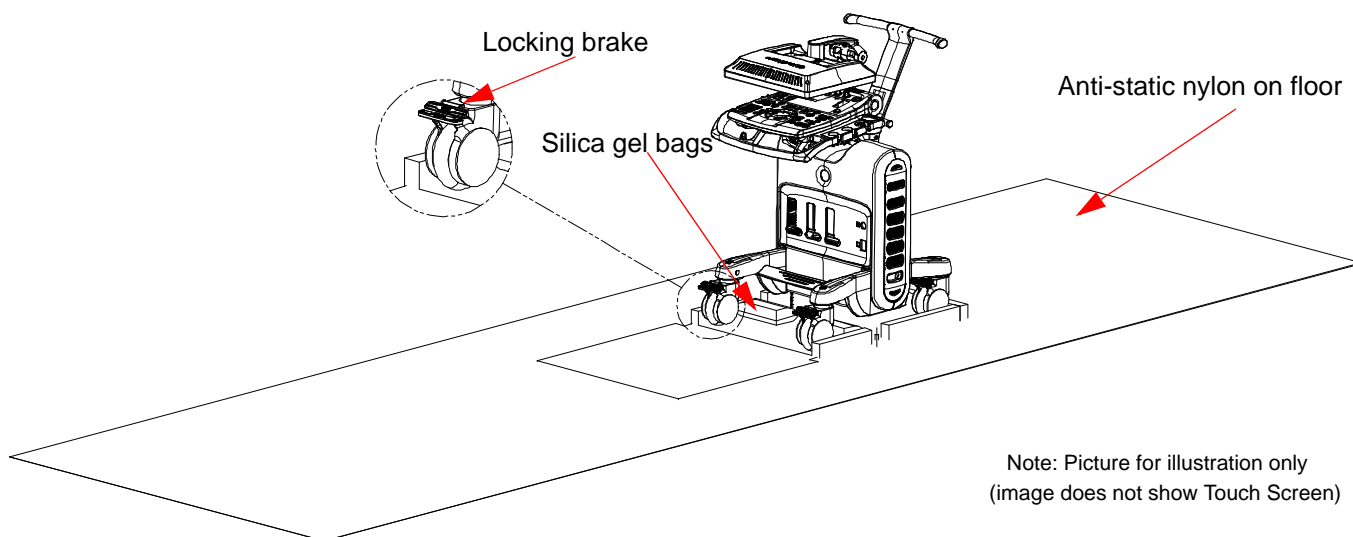

Figure 3-8 Locking Wheel Brake
- 11.) Remove the two silica gel bags (Figure 3-8).